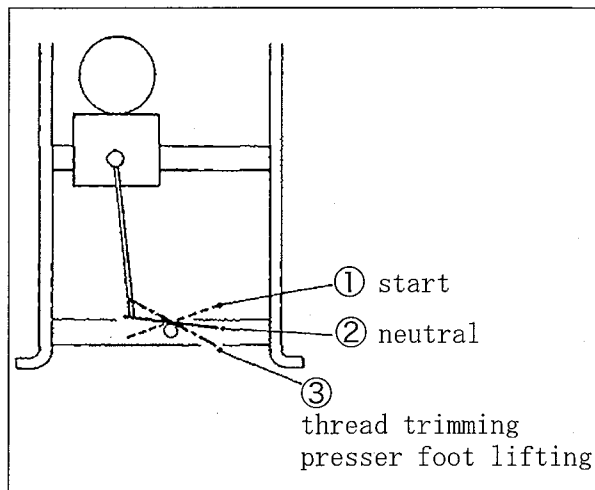

Fig. 11
- (1) Place the fabric under the presser foot and toe down the pedal. (Fig. 11 ①)
- (2) Release the pedal. (Fig. 11 ②)
- (3) Heel back the pedal. (Fig. 11 ③)
- (4) Release the pedal. (Fig. 11 ②)